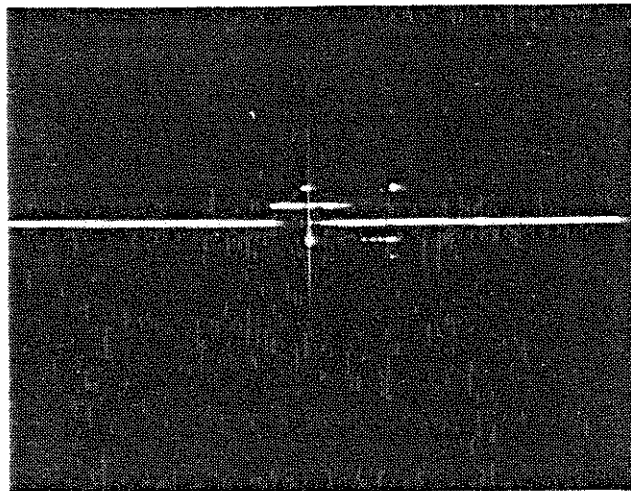

Fig. 4-9 Waveform to adjust breakpoint DC level
- g. **ADJUST** C120 on A18/CH1 so the display baseline before and after the breakpoint is at the same level (Figure 4-9).
- p. **CHECK** that the DC level shift is within ± 10 LSBs (2.5 divisions) as shown in Figure 4-9, except for a bit or two at the breakpoint change point.